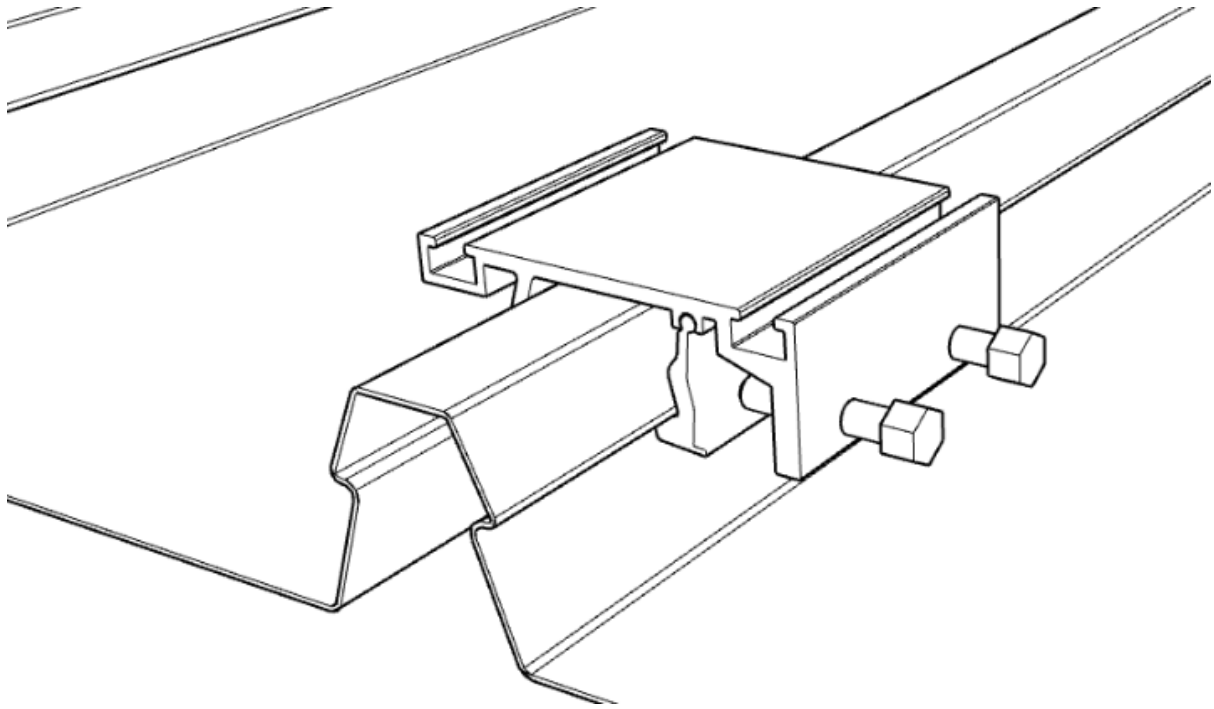
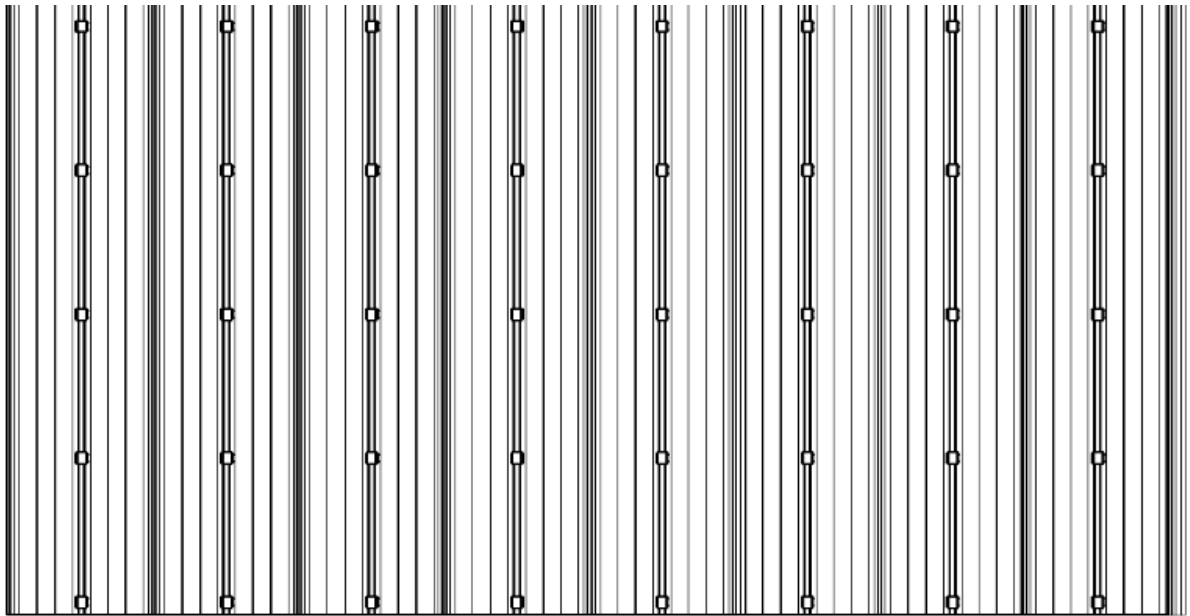

FIGURE 37
FIGURE 38
② Install the clamp base on the square rib according to the position of the snapline, and use the external hexagonal bolt to lock the clamp base for installation (Figure 37)as shown below(Figure 38);